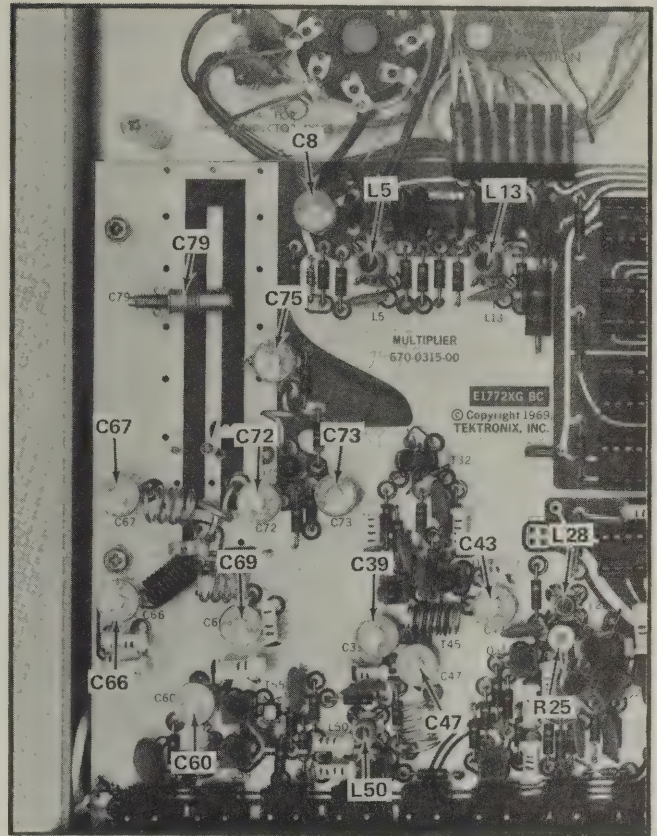

Fig. 5-6. Location of adjustments for multipliers.
- 1) Set R25 (Fig. 5-6) midrange.
- e. ADJUST—C60 (Fig. 5-6) for maximum amplitude of the 200 MHz (5 ns) sine-wave display. Check intermodulation percentage as described in step 5f. Intermodulation should not exceed 4% at 20°C. (Maintenance check only.) If intermodulation is excessive, adjust L50 a slight amount for optimum flatness.
- e. ADJUST—C66, C72, and C79 (Fig. 5-6) for maximum signal amplitude. Adjust C67, C69, C73 and C75 for optimum flatness and amplitude. Adjustments C66, C67, C69 and C72 all interact. Do not move these adjustments very far from their original setting. Because of interaction, a number of